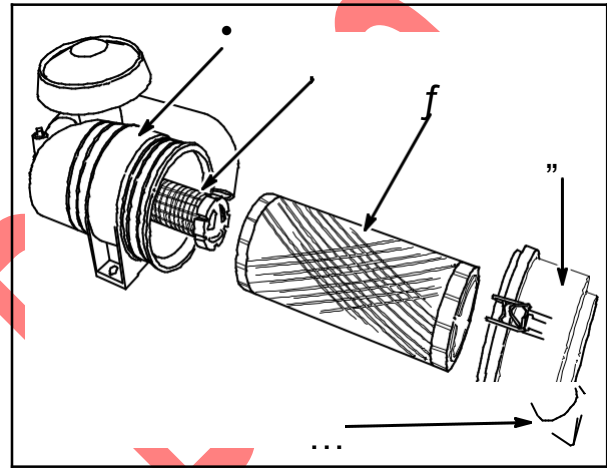

Fig. 4
Remove debris from the air cleaner by squeezing the ends of the debris valve (5), **Fig. 4.**